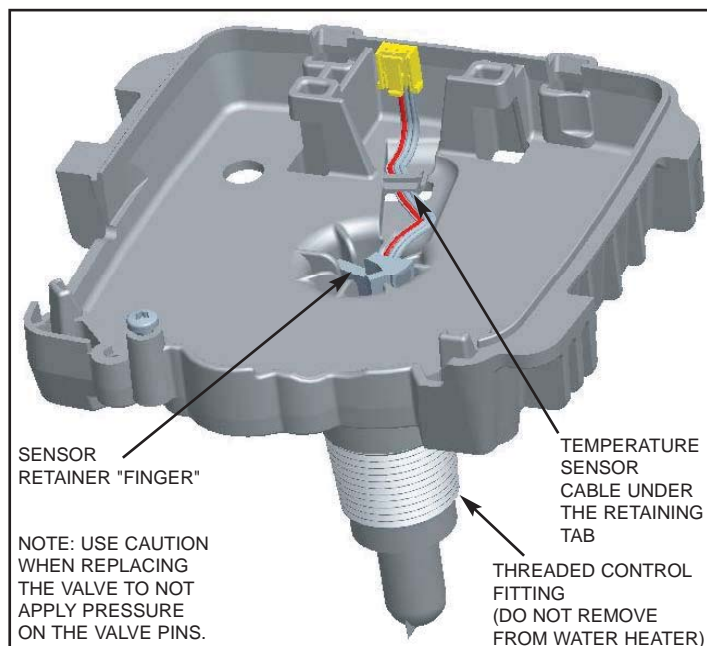

Figure 31 Disassembly Step 5
3. Use a screwdriver to pry under the sensor retainer finger to remove the temperature sensor and cable (see Figure 31).